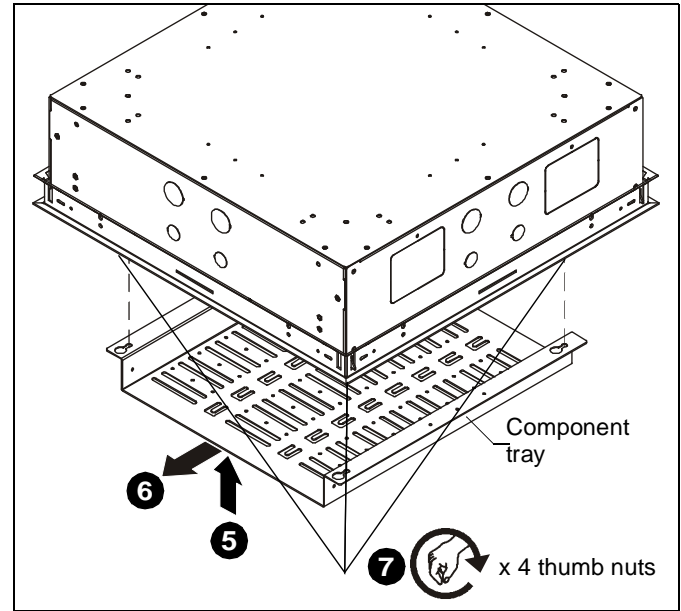

Figure 15
5. Lift component tray to CMS490, ensuring all power and signal wires and cables are properly installed on the tray. (See Figure 15)